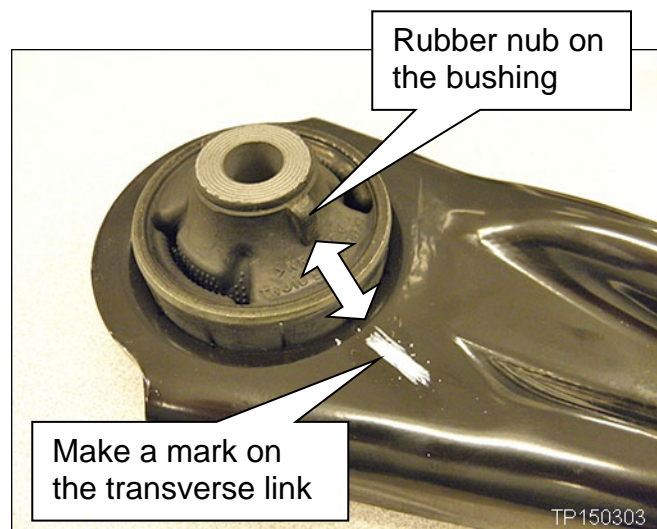

Figure 1
2. Place a mark on the transverse link as shown in Figure 1.